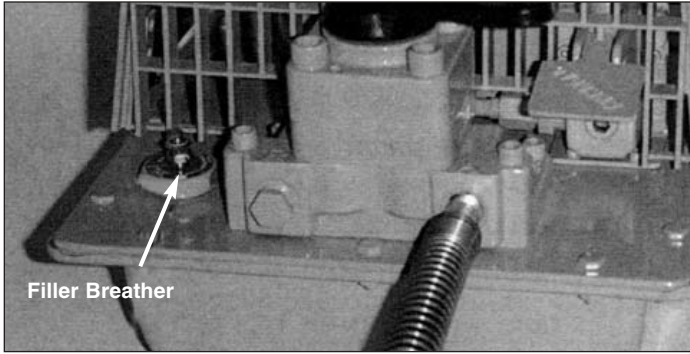

Figure 2 - Filler/Breather Plug Location
2. Remove breather/fill plug and fill reservoir to about 1/2 inch from the top. (See Figure 2)